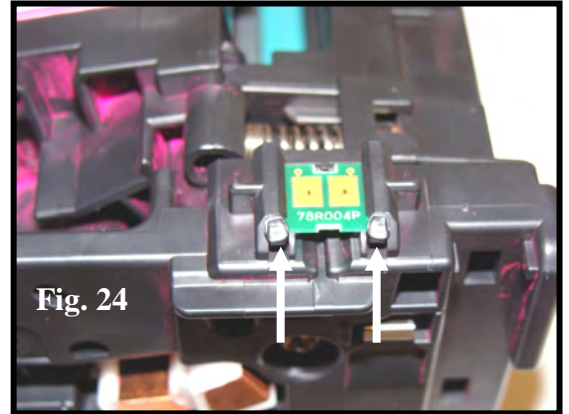

Fig. 24
24. Remove the plastic welds that secure the chip in the housing using a utility knife (Fig. 24).